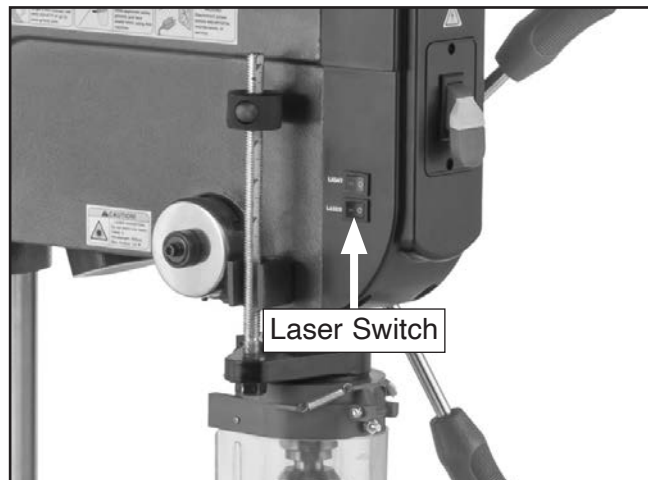

Figure 43. Location of laser switch.
6. Connect drill press to power. Use laser switch to turn laser guide **ON** (see **Figure 43**).